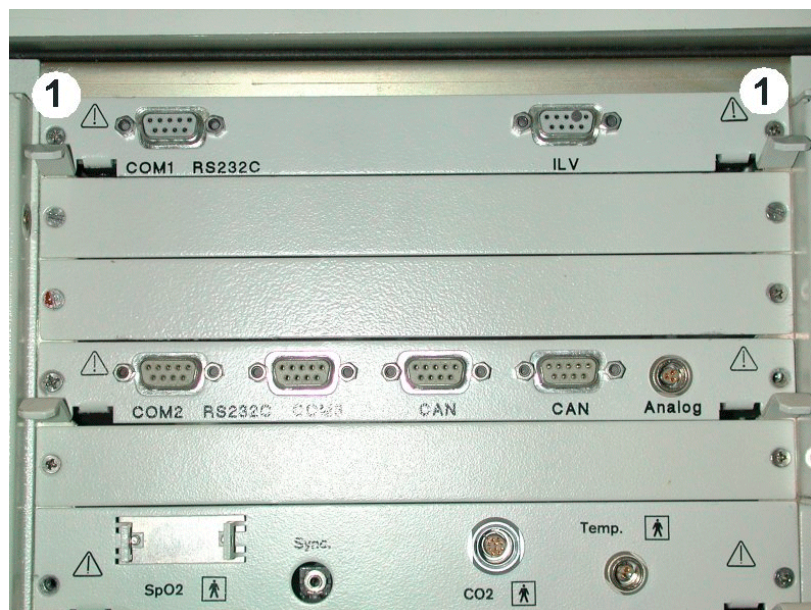

Figure 5 Rear view of the machine
5. Remove the screws (Figure 5/1) on the CPU 68332 PCB (Note: The CPU 68332 PCB might also be in another slot than that shown here).